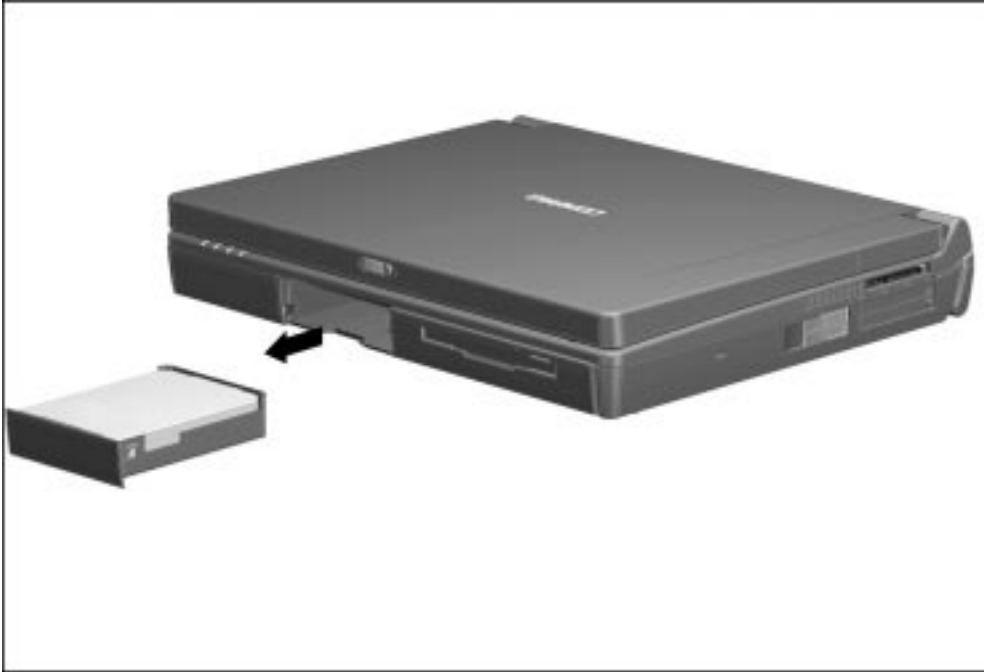

Figure 5-15. *Removing a Hard Drive from the Hard Drive Bay*
6. Pull the hard drive out of the hard drive bay (Figure 5-15).